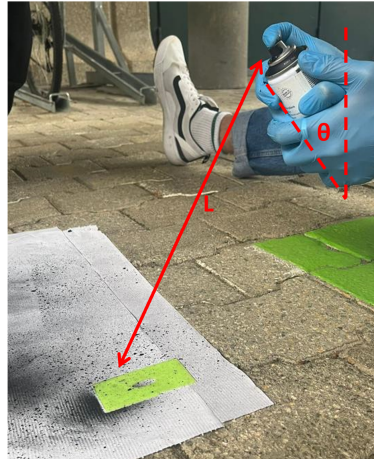

Figure 4: Spray Painting the Sample. The spray paint can is placed at a distance and orientation determined by trial and error on a scrap paper.
4. Practice first on a scrap paper with varying spray-sample distance, spraying time intervals, and varying spray can orientation. Check how varying these parameters affects the density and size of the pattern. Check figure 4.